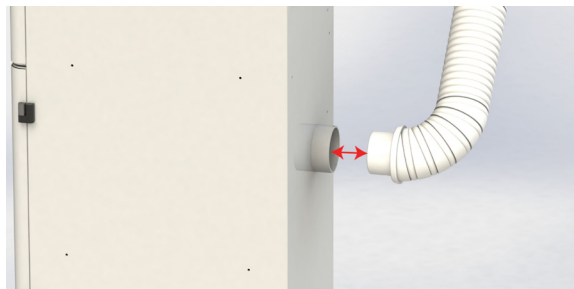

Fig. 5
- D. Slip the other end of the 2.5" white hose into the inlet port on the back of your StoneVac Mill Sync (Fig. 5).